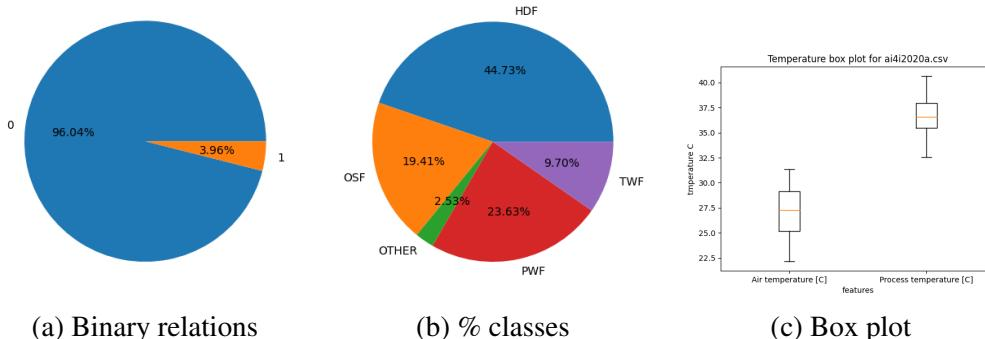

Figure 1: Exploring results
- Plot a pie chart for binary relation failure/not (Fig. 1(a))
- Plot a pie chart for different failure classes (Fig. 1(b))
- Draw the box plot of temperature features for non null values (Fig. 1(c)).